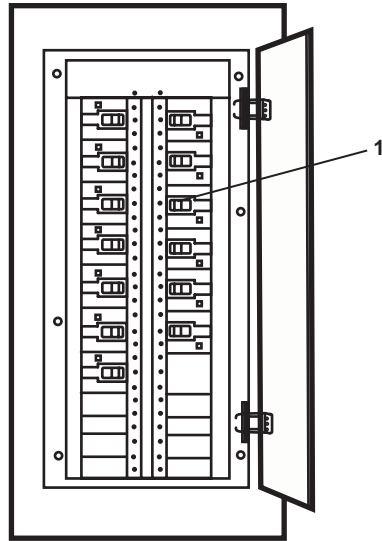

Figure 1. 440V Power Panel No. 5
1. At 440V power panel No. 5, set the WELDING MACHINE. circuit breaker (figure 1, item 1) to ON.
- c. At 440V power panel No. 5, set the WELDING MACHINE. circuit breaker (figure 1, item 1) to OFF.